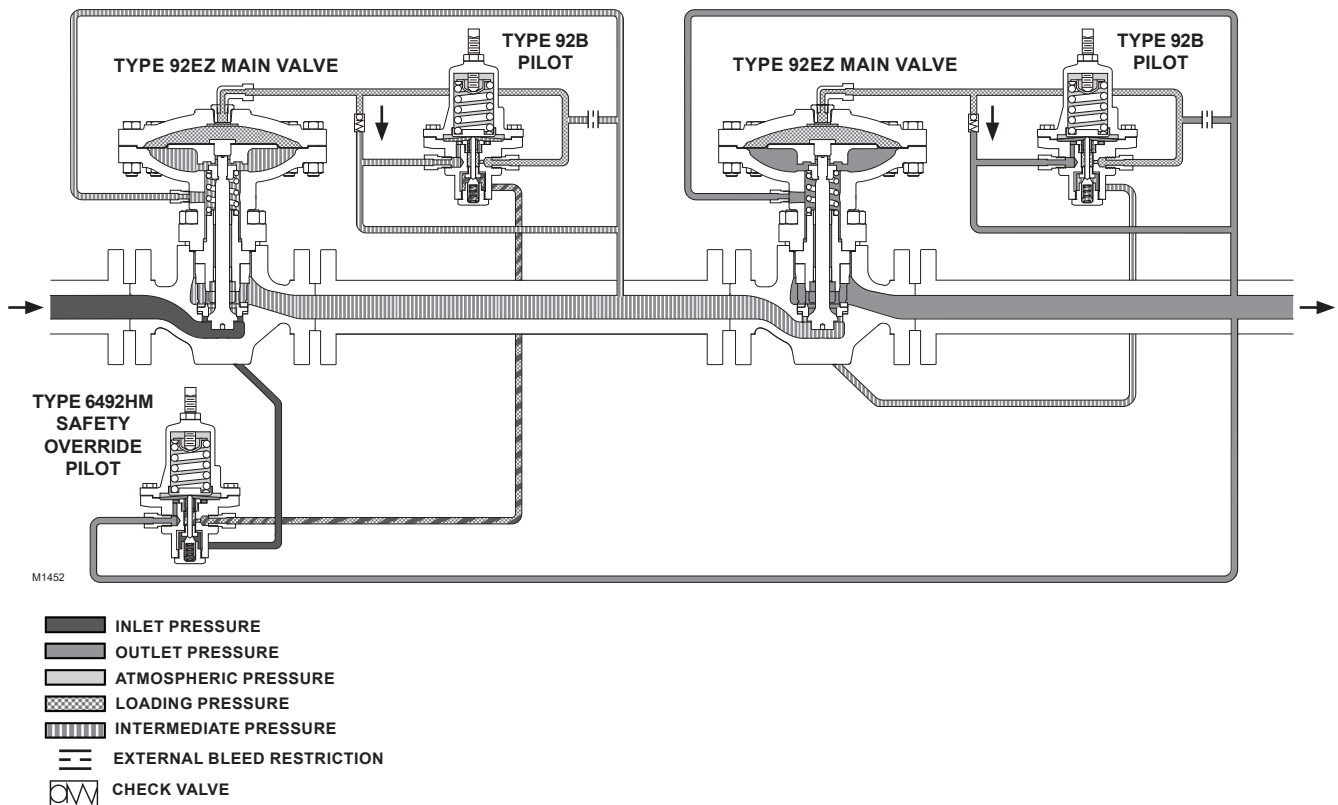

Figure 4. Safety Override System Schematic
Refer to Figure 4. Once placed in operation, the upstream Type 92B pilot (B) senses the intermediate pressure between both valves and the Type 6492HM (A) pilot senses pressure downstream of the second valve. As demand for flow increases, intermediate pressure will fall causing the Type 92B pilot to open. As the Type 92B pilot opens, loading pressure to the main valve increases, opening the main valve.